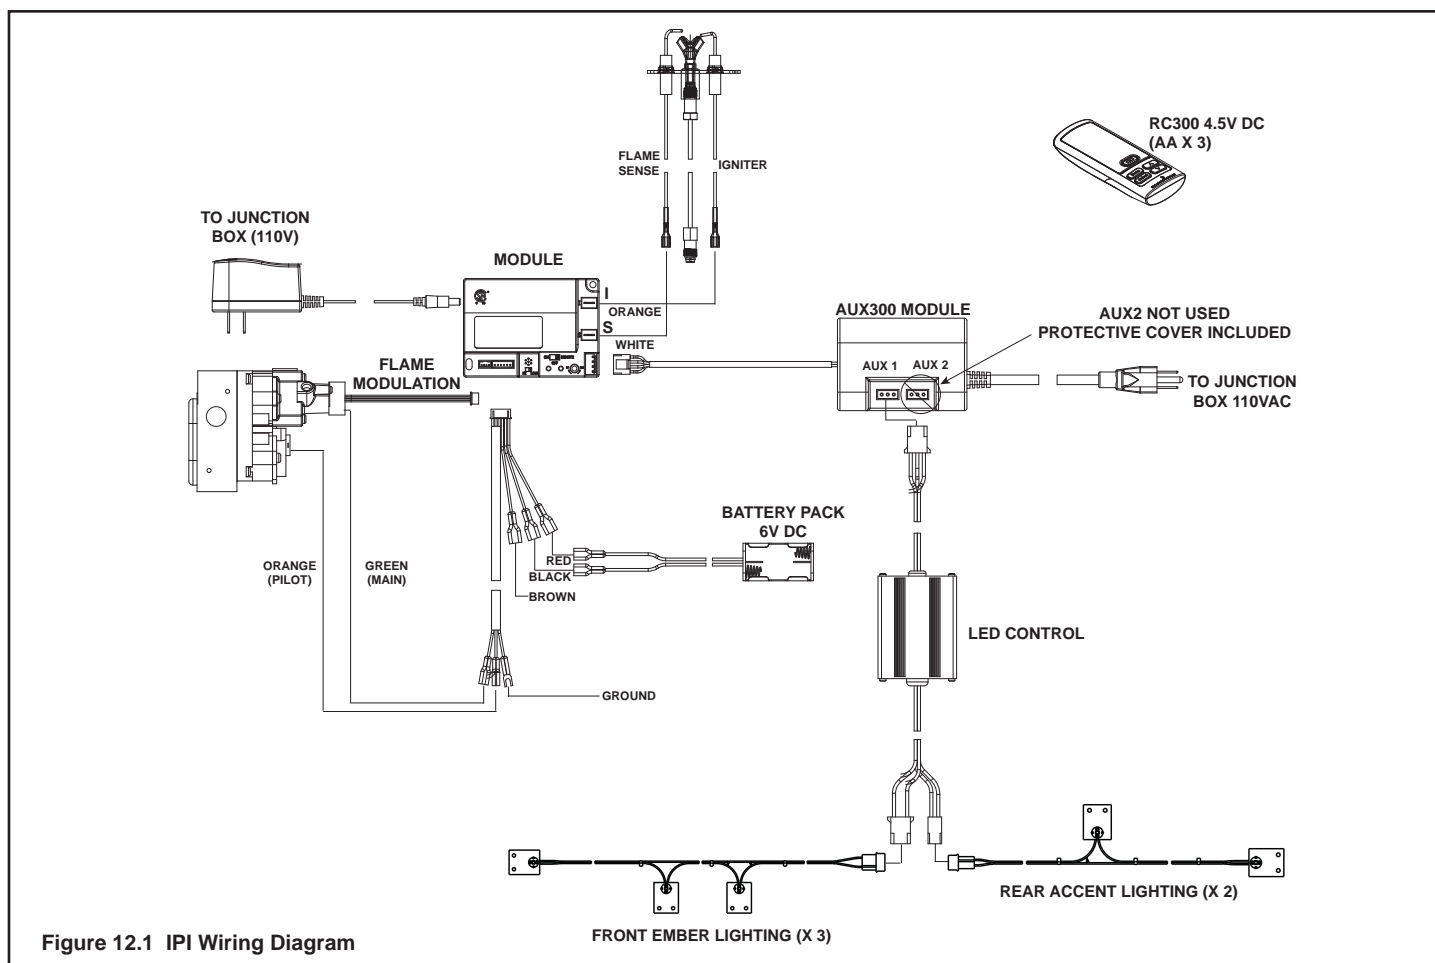

Figure 12.1 IPI Wiring Diagram
- Refer to Figure 12.1, IPI Wiring Diagram.